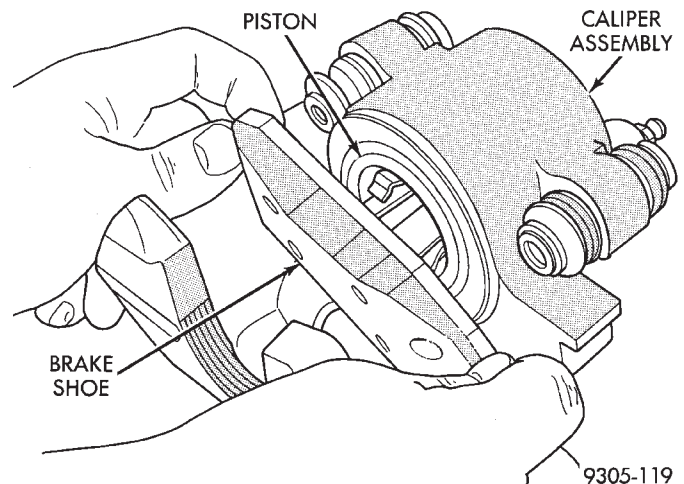

Fig. 54 Installing Inboard Brake Shoe Assembly
- (5) Install the new inboard brake shoe assembly into the caliper piston by firmly pressing into piston bore (Fig. 54). Be sure inboard brake shoe assembly is positioned squarely against face of caliper piston.